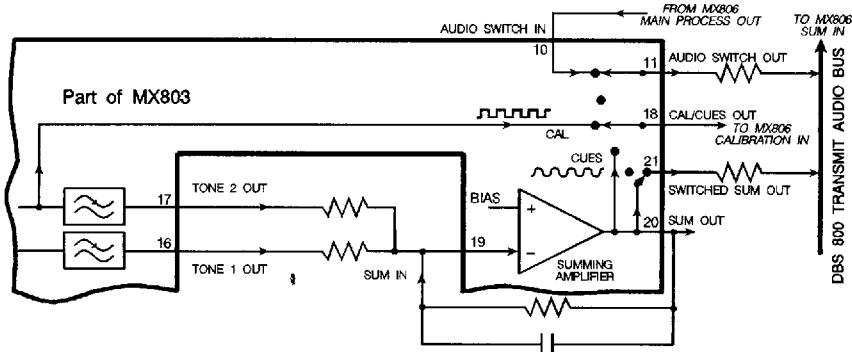

Figure 3 - Signal Switching
2. Resistors marked with an asterisk (\*) are System Components whose values are calculated to allow the MX803 to operate with other DBS 800 microcircuits. Figure 3 shows these components used in the system signal paths.
See the signal switching diagram (Figure 3) for application examples.
Used to interrupt the MX803 drive to the MX806A Audio Processor (see Figure 3, Signal Switching).